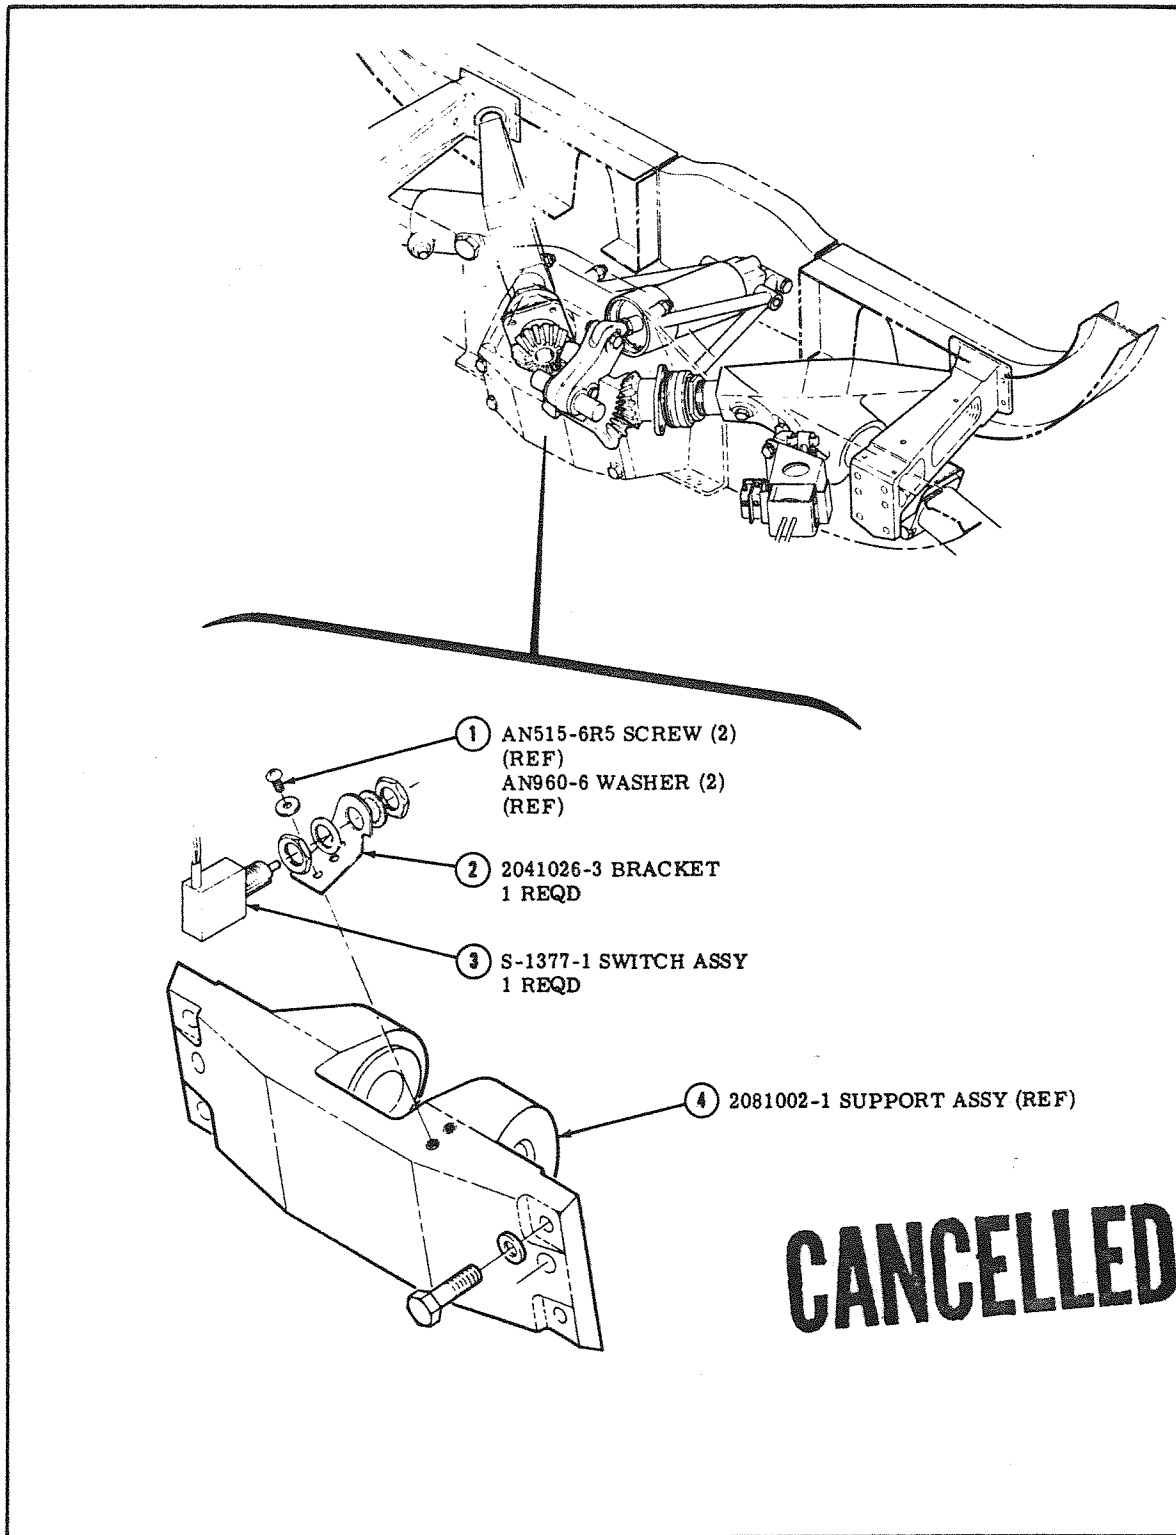

Figure 1. Main Gear Up Position Indicator Switch Installation
- c. (Refer to figure 1.) Install new switch on the main gear actuator support as follows:
- (1) Remove the existing switch and bracket from support (4) and install bracket (2) using the existing screws and washers.
- (2) Check that the gear is in the full up position and install switch (3) in the bracket (2).